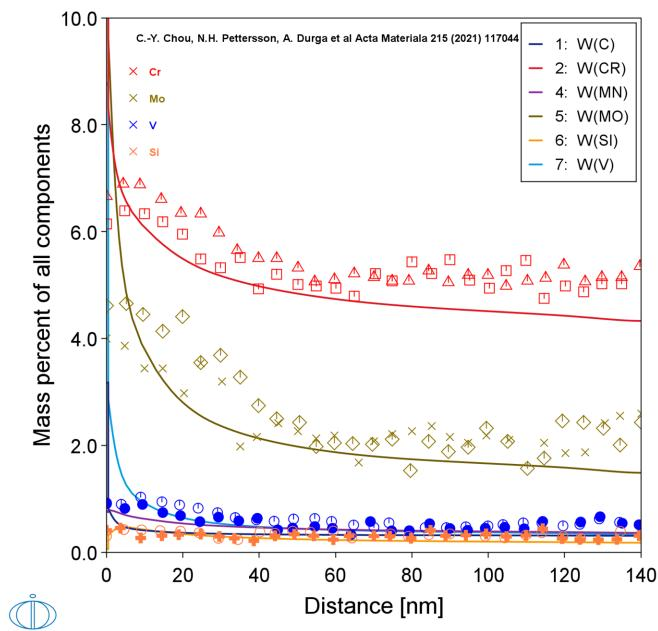

Figure 182: The simulated segregation profile with overlaid experimental STEM-EDS line scans from C.-Y. Chou et al. [2021Cho].
The calculated segregation profiles are finally compared with the STEM-EDS line scans as shown in Figure 182.
- **Plot results:** After completing the set up and performing the calculation, to view the matching name of the node on tab(s) in the **Visualizations** window, click a **Plot Renderer** node in the **Project** window or click the tabs individually in the **Visualizations** window. See Figure 182.